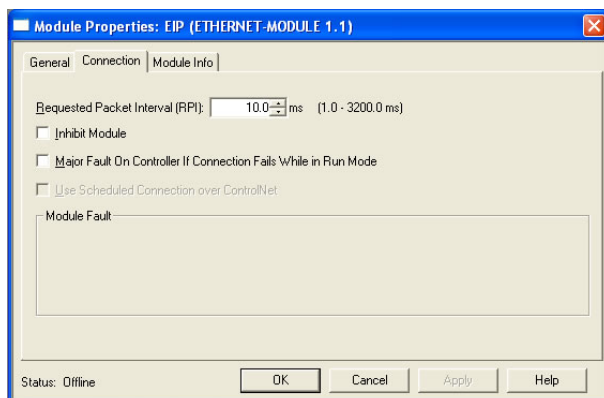

Figure 79: Module Properties Connection Tab
- 5) You should now see the new module (named “ETHERNET-MODULE ASD_G9ETH”) in the 1756-ENBT/A branch under the I/O Configuration in the controller organizer view. Right click on this new module, choose “Properties”, and select the Connection tab. Refer to Figure 79.